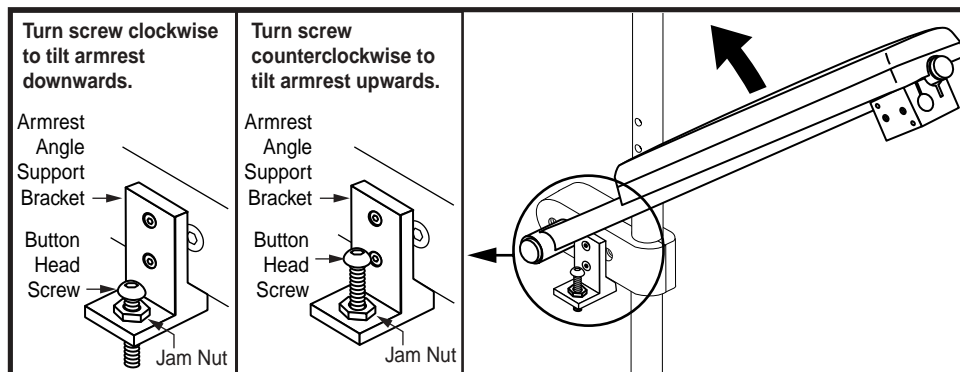

Figure 12. Flip-Up Armrest Angle Adjustment
2. Loosen the jam nut located on the armrest angle support bracket. See figure 12.
4. When the screw has been positioned to the proper angle, tighten the jam nut. See figure 12.
3. Remove the button head screw and jam nut from the armrest angle support bracket. See figure 12.
9. Reinstall and tighten the button head screw to the armrest angle support bracket, then tighten the jam nut. See figure 12.